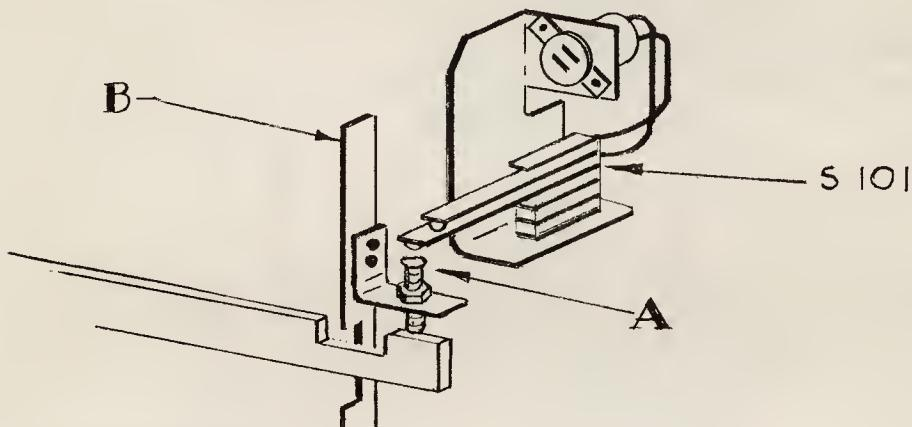

FIG.13
(R) Spaceband Reed Switch S-101 (Fig. 13)